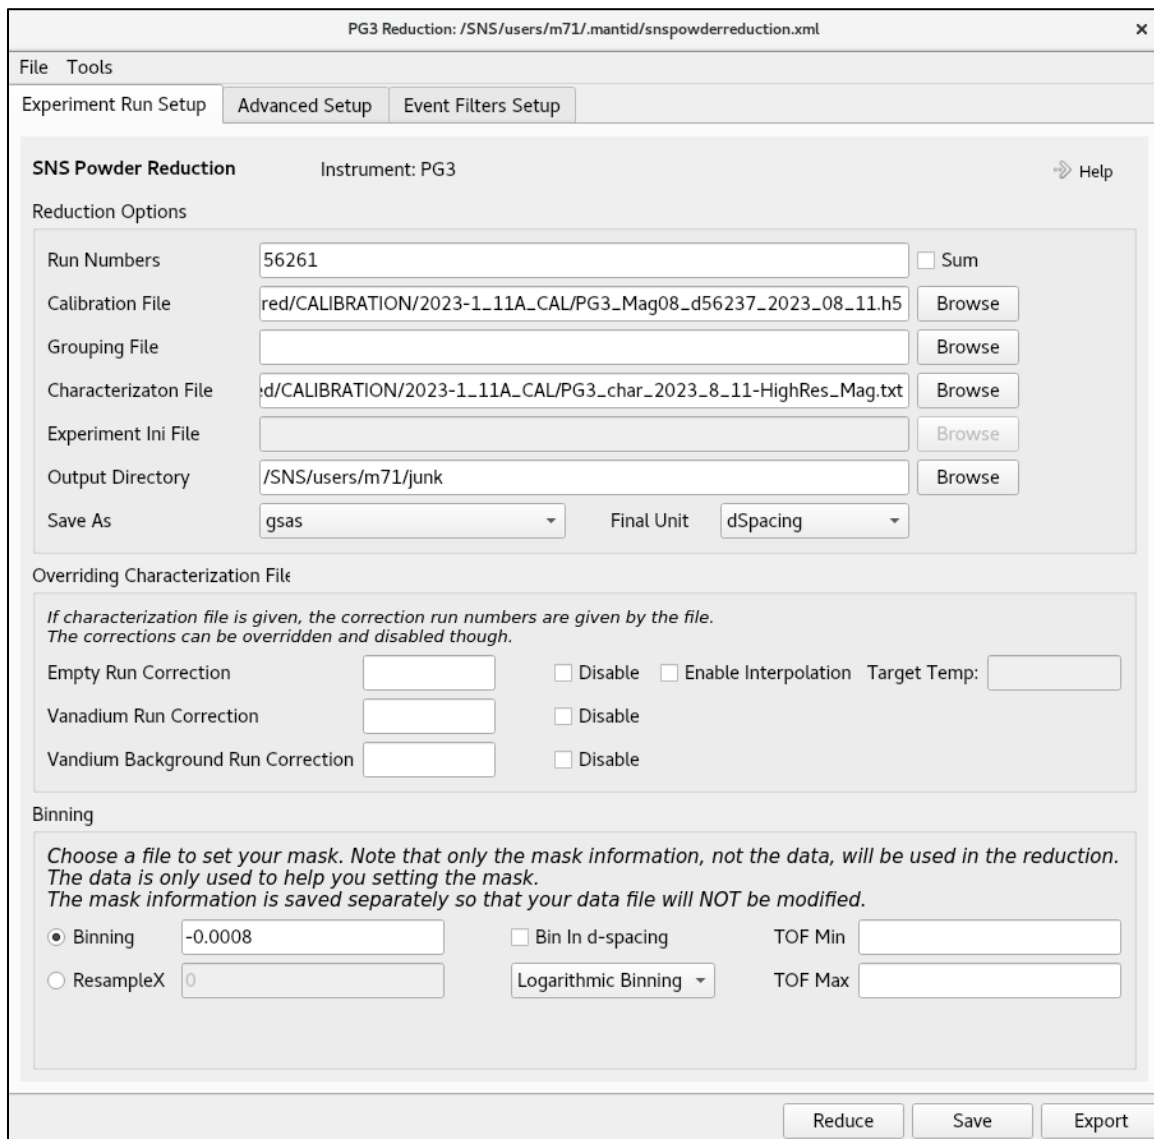

Figure 13. Powder Diffraction Reduction input dialog box, Experiment Run Setup tab.
- 3.1.2. Enter the appropriate parameters in the Experiment Run Setup tab (Figure 13), as outlined in section 3.2 below.